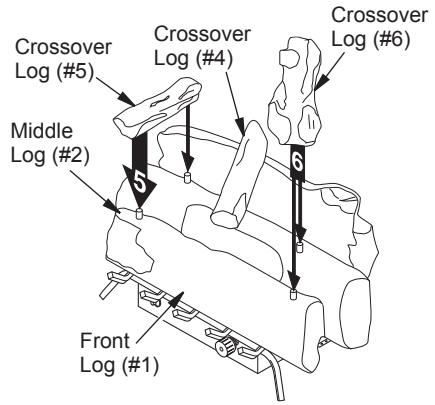
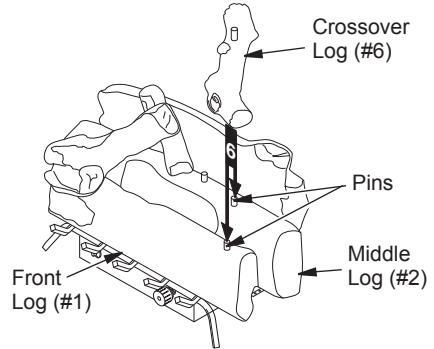

Figure 24 - Installing Crossover Log #5 and Log #6 (CCL3018PA/NA and CCL3018PTA/NTA Only)
Figure 25 - Installing Crossover Log #6 (CCL3930PTB/NTB Shown)
- For **CCL3018PA/NA** and **CCL3018PTA/NTA** Only: Locate holes on the bottom of crossover log (#5). Slide the holes over the left pins on middle log (#2) and front log (#1). See Figure 24.
6. Locate holes on the bottom of crossover log (#6). Slide these holes onto the right pins located in middle log (#2) and front log (#1). See Figure 25 for CCL3924PTA/NTA or CCL3930PTB/NTB. See Figure 24 for CCL3018PA/NA or CCL3018PTA/NTA.